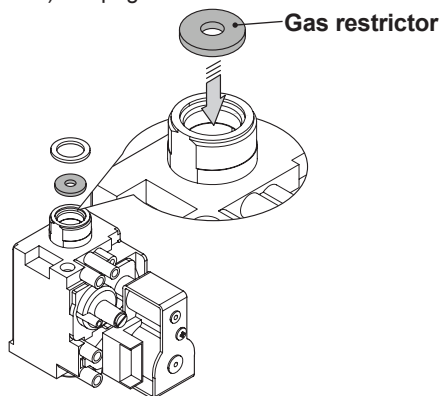

Fig. 9.2
- Carry out gas conversion by correctly replacing the gas restrictor (Fig. 9.2), referring to section "Technical data BASICA COND 24C (M275V.2024 SM)" on pag. 24, "Technical data BASICA COND 28C (M275V.2428 SM)" on pag. 28 and "Technical data BASICA COND 32C (M275V.2832 SM)" on pag. 32.